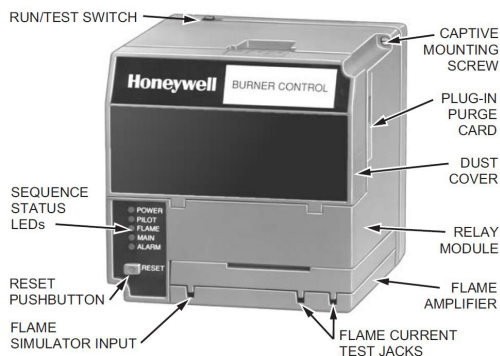
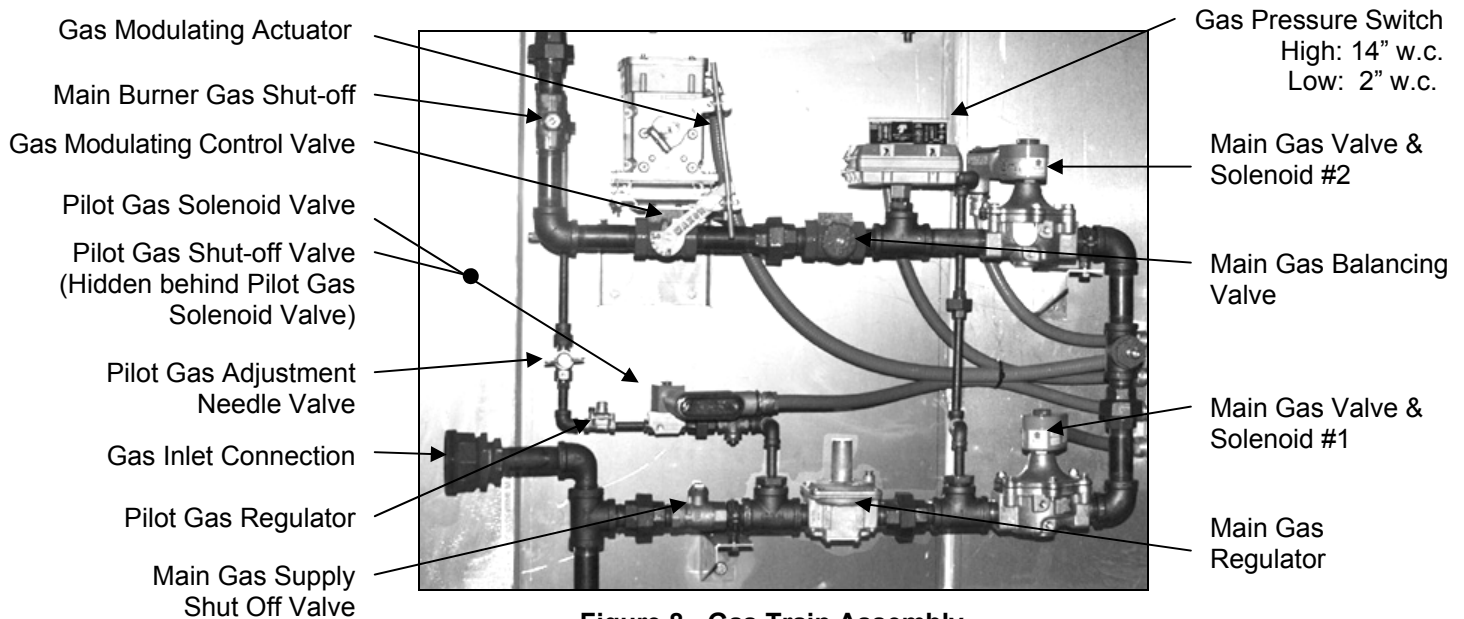

Figure 6 - Burner Control Relay Module
Figure 8 - Gas Train Assembly
There are several important parts to an industrial gas unit. On the gas train itself is a pilot solenoid valve, two main gas solenoid valves, a main gas regulator and pilot gas regulator, a gas control valve with actuator and several hand valves. The burner assembly consists of a spark ignitor, a flame rod (to detect a flame), and the burner. Inside the electric box is a burner control relay module (see Figure 6).
Note: The safety lockout requires a manual reset. See Figure 6 for the location of the reset button.
5. To light and adjust the gas pilot: Open the Main Gas Supply Shut-off Valve and open the Pilot Gas Shut-off Valve (see Figure 8). Start the unit and ensure the pilot indicator light illuminates (see Figure 6). Observe the pilot flame through the burner viewing window.